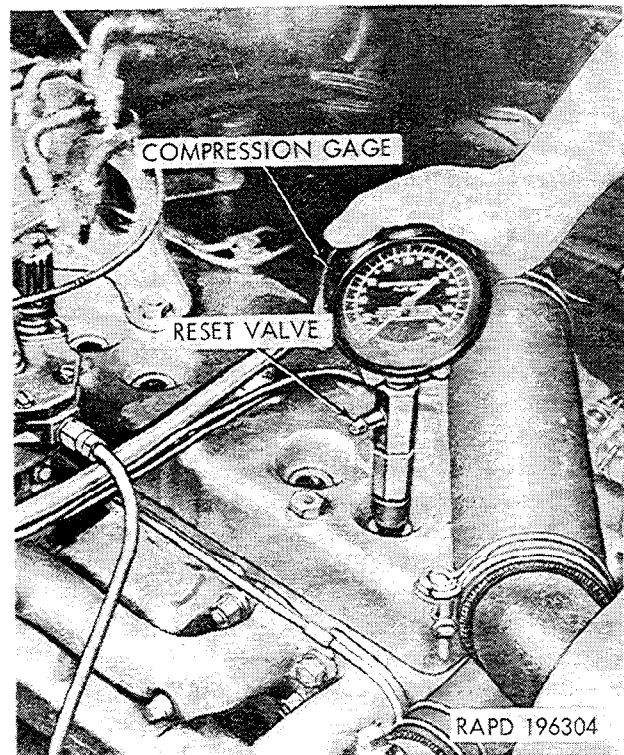

Figure 2-80. Engine compression test.
(3) Insert compression gage in No. 1 spark plug hole (fig. 2-80) depress starter button to crank engine, and note maximum compression indicated by gage.